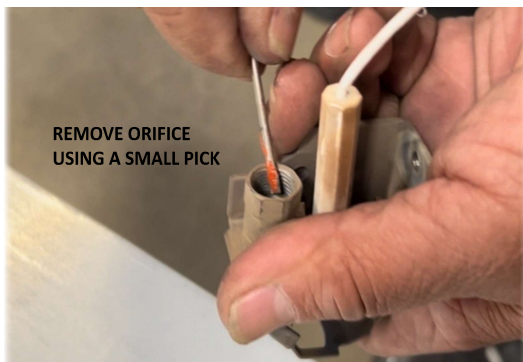

Figure 12. Remove Orifice from Pilot Cavity
- Using a small pick, extract the Orifice from the Pilot's cavity (See **Figure 12**).